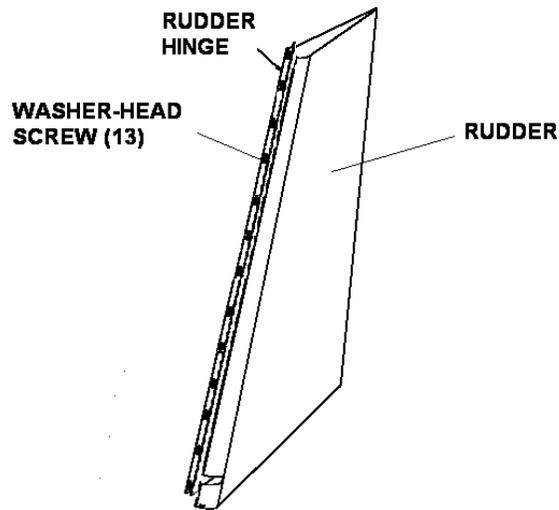

Figure 27-25 Rudder Hinge Screws
1. Remove 13 washer-head screws securing rudder hinge to right side of vertical fin. See Figure 27-25.